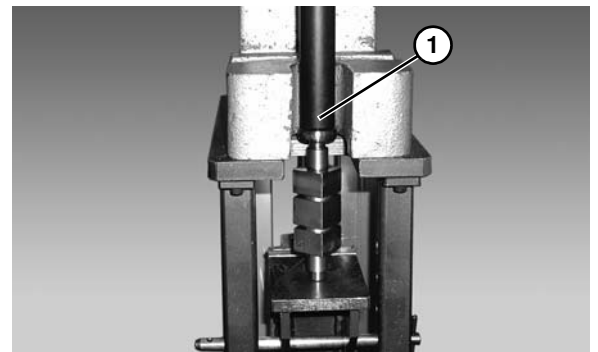

Figure 58
4. Press new bearing onto drive pulley using installation tool 450293 (**Figure 58, item 1**).